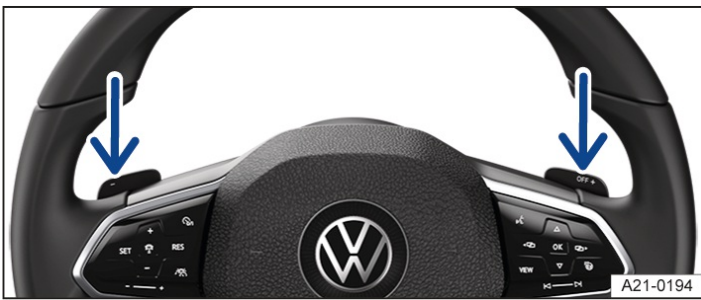

Fig. 2 Steering wheel with shift paddles for Tiptronic.
1. Pull the right shift paddle toward the steering wheel to shift up→ *fig. 2*.